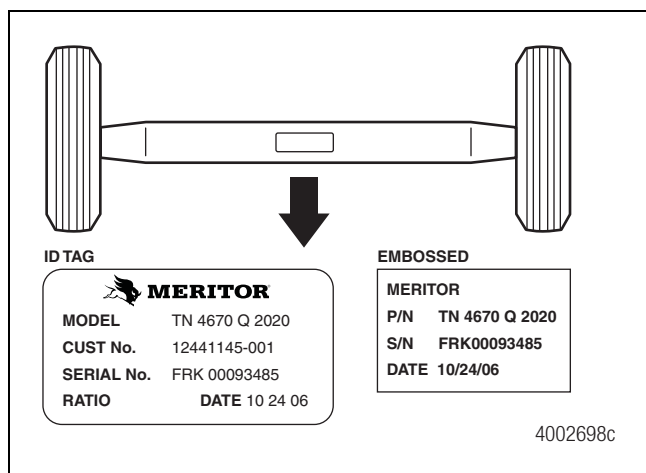

Figure 6.4
- On axles built with a top-center hole, the ID tag or embossing is located toward the axle rear. Figure 6.4.